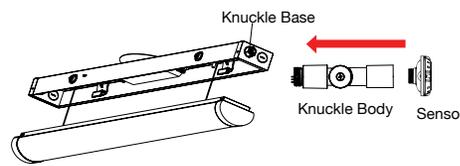

Fig. 7
6. Thread the compatible DC motion sensor (MS01-PIR-TW-DC or MS04-MW-TW-DC) into the 3-pin motion sensor receptacle at the end of the knuckle body. (Fig. 7 & 8).